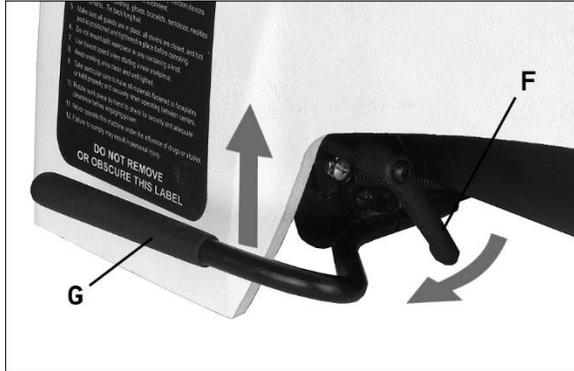

Figure 14
2. Relieve belt tension by pulling handle (F, Figure 14) while pushing up lever (G).
4. Push lever (G) down to tighten belt, and close access doors.